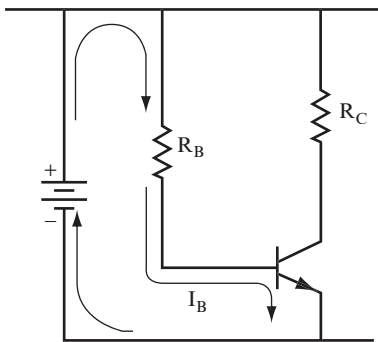
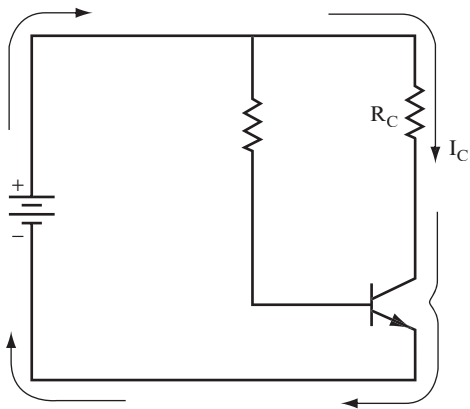

FIGURE 3.17
FIGURE 3.18
13 Consider the circuit shown in Figure 3.17. It uses only one battery to supply voltage to both the base and the collector portions of the circuit. The path of the base current is shown in the diagram.
When base current flows in the circuit shown in Figure 3.17, what other current can flow, and which components will it flow through? _____
15 In Figure 3.18 the arrows indicate the path of the collector current through the circuit.
- A. See Figure 3.17 and Figure 3.18.